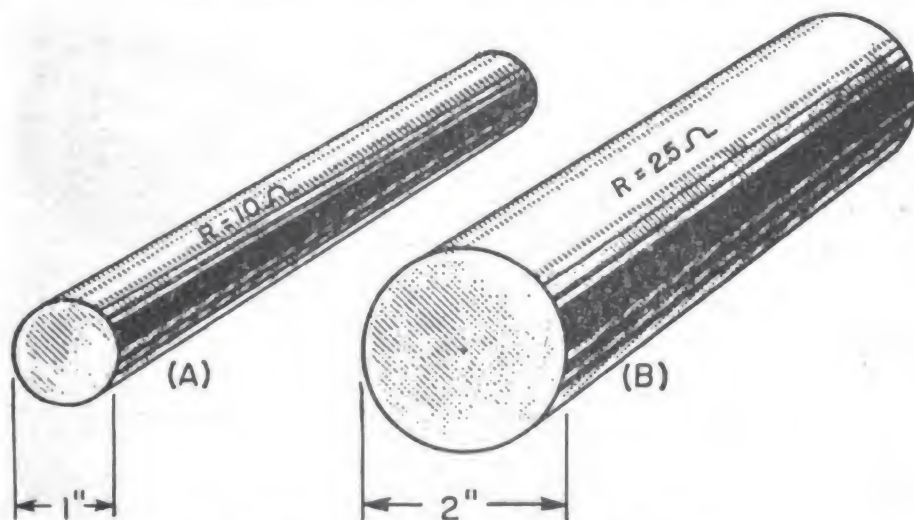

Figure 52.—Effect of doubling diameter.
Suppose the conductor in (A) of figure 52 has a resistance of 10 ohms and is 1 inch in diameter. Suppose the conductor in (B) is of the same